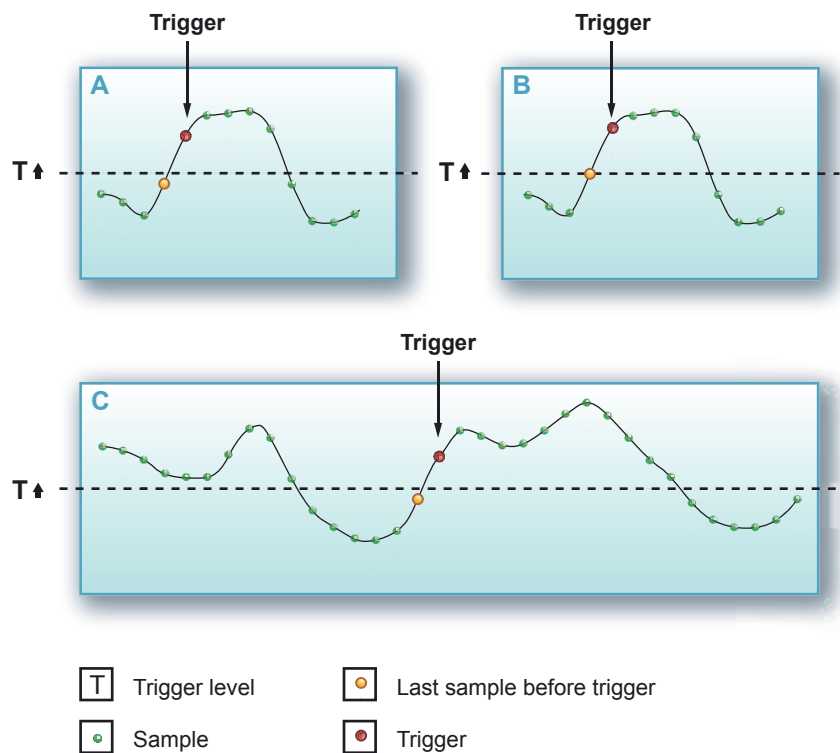

Figure 10.2: Level crossing detector
Figure 10.2 shows the basic trigger mode with a specified level (T) and a level crossing in a positive direction. In Figure 10.2 (A), the trigger occurs on the first sample after the level crossing. In Figure 10.2 (B), the trigger does not occur until a sample is actually above the required level.
Since the trigger detector requires a level crossing, no trigger occurs when a signal is above the set level when recording starts. This is depicted in Figure 10.2 (C).